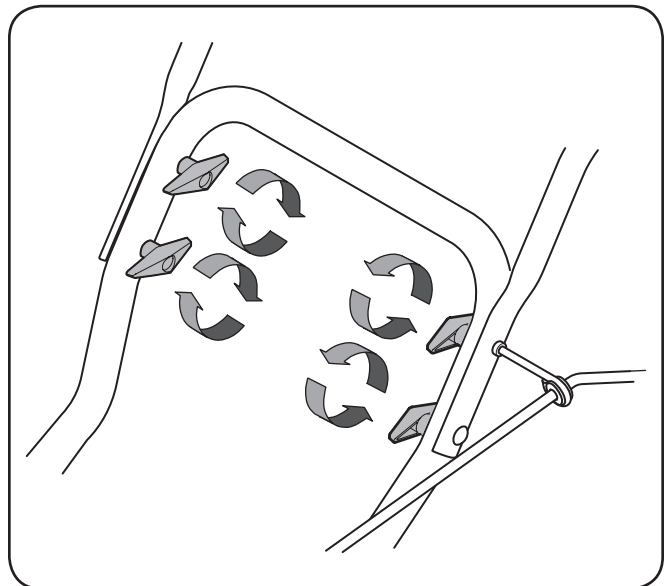

Figure 3-2
4. Secure the upper handle and lower handle with the two wing nuts, belleville washers, and carriage bolts removed earlier. Tighten the two wing nuts already installed in the upper holes to firmly secure the upper handle and support tubes. See Figure 3-2.